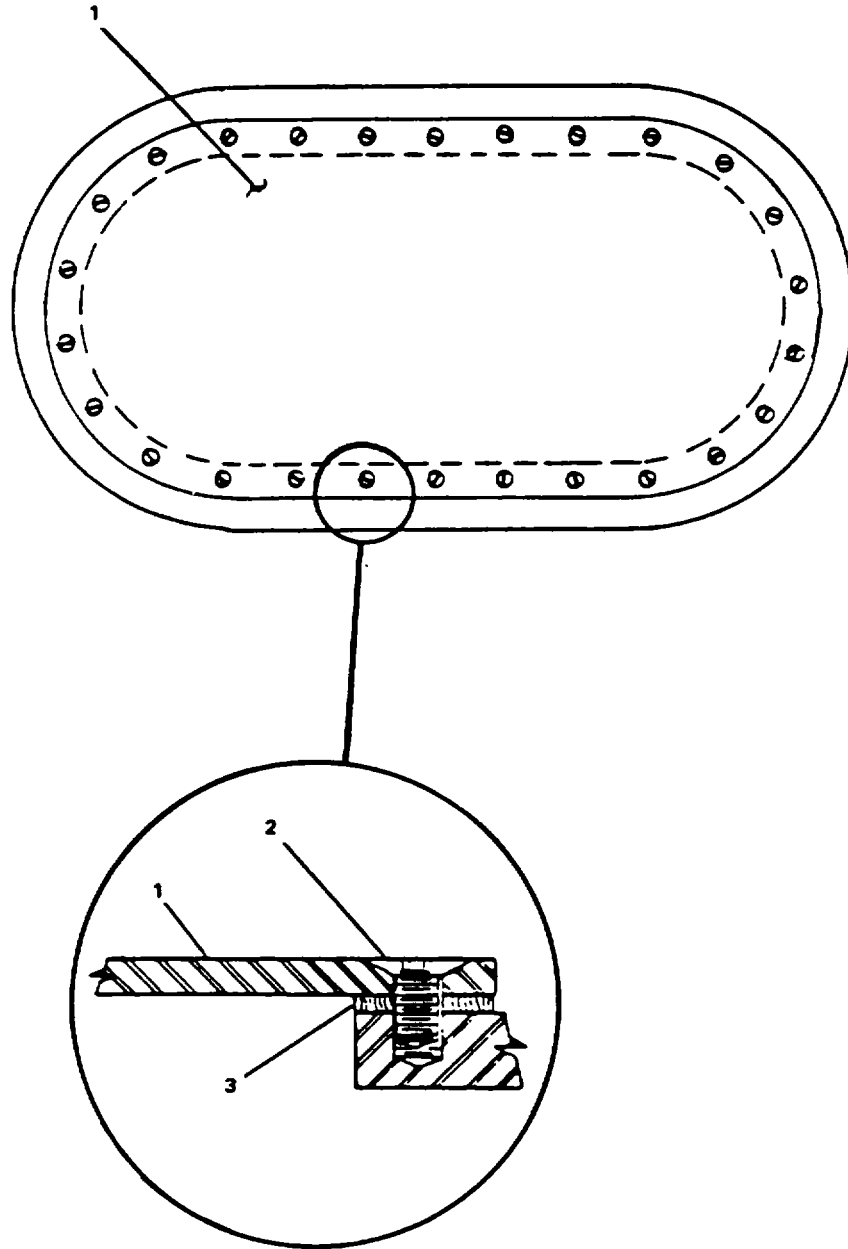

Figure 2-42. Manhole (Bolted Plate. Flush).
- a. Remove screws (2, Figure 2-42) from manhole cover (1).
- b. Remove manhole cover (1) from closure.
- c. Remove gasket (3) from manhole cover.